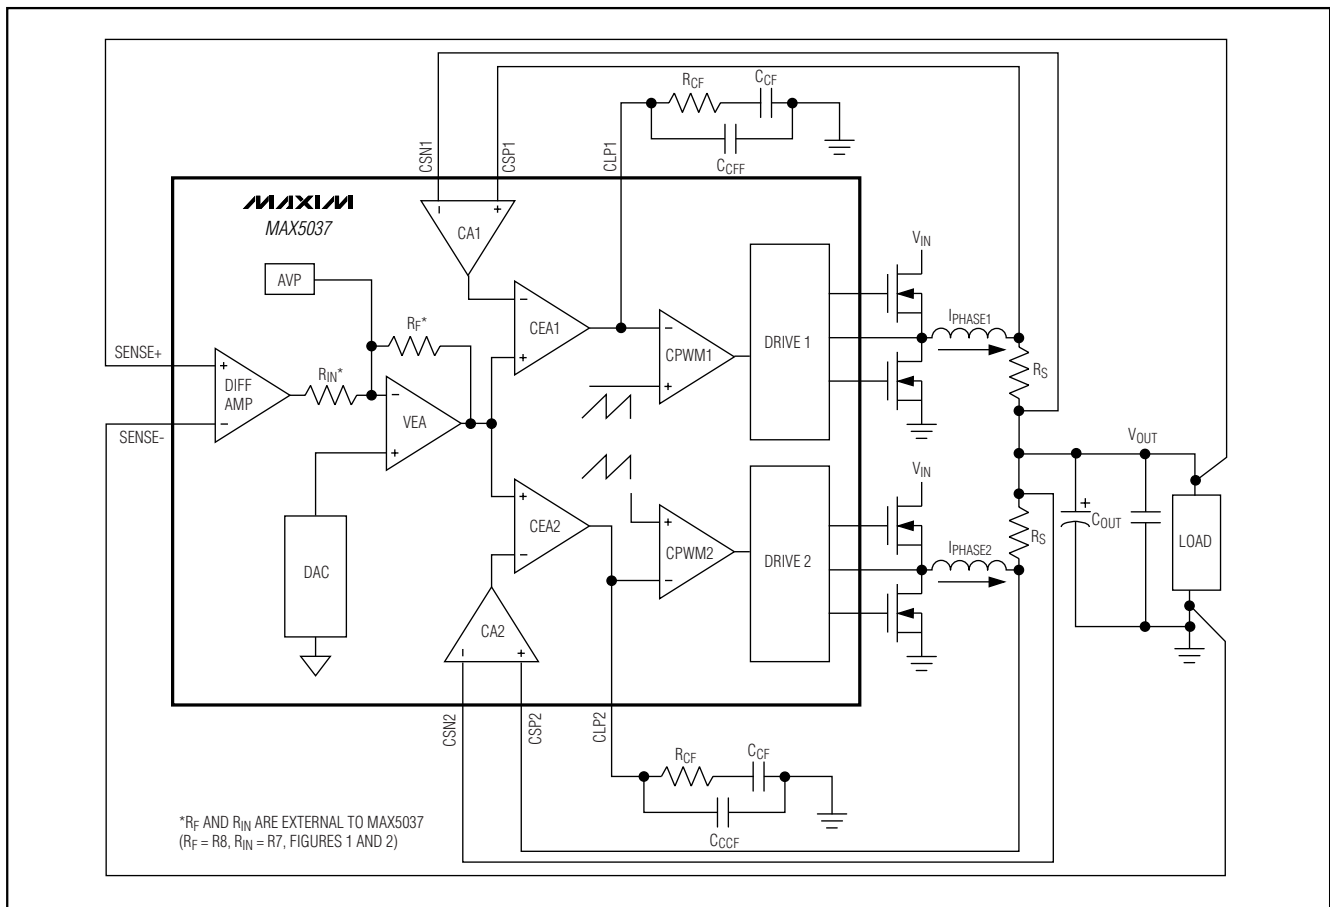

Figure 3. MAX5037 Control Loop
The MAX5037 uses an average current-mode control scheme to regulate the output voltage (Figure 3). The main control loop consists of an inner current loop and an outer voltage loop. The inner loop controls the output currents (I_{PHASE1} and I_{PHASE2}), while the outer loop controls the output voltage. The inner current loop absorbs the inductor pole reducing the order of the outer voltage loop to that of a single-pole system.
The outer voltage control loop consists of the differential amplifier (DIFF AMP), adaptive voltage-positioning (AVP) block, digital-to-analog converter (DAC), and voltage-error amplifier (VEA). The unity-gain differential amplifier provides true differential remote sensing of the output voltage. The differential amplifier output and the AVP connect to the inverting input (EAN) of the VEA. The noninverting input of VEA is internally connected to the DAC output. The VEA controls the two inner current loops (Figure 3). Use a resistive feedback network to set the gain of the VEA as required by the adaptive voltage-positioning circuit.
Each phase of the MAX5037 has a dedicated transconductance current-error amplifier (CEA₋) with a typical g_m of 550 μ S and 320 μ A output sink and source current capability. The CEA₋ outputs, CLP1 and CLP2, serve as the inverting input to the PWM comparator. CLP1 and CLP2 are externally accessible to provide frequency compensation for the inner current loops (Figure 3). Compensate CEA₋ such that the inductor current down
The unity-gain differential amplifier (DIFF AMP) facilitates the output voltage remote sensing at the load (Figure 3). It provides true differential output voltage sensing while rejecting the common-mode voltage errors due to high-current ground paths. Sensing the output voltage directly at the load provides accurate load voltage sensing in high-current environments. The VEA provides the difference between the differential amplifier output (DIFF) and the desired VID programmed output voltage. The differential amplifier has a unity-gain bandwidth of 3MHz. The difference between SENSE+ and SENSE- regulates to the programmed VID output voltage.
The VEA output clamps to 0.9V relative to V_{CM} (0.6V), thus limiting the average maximum current from individual phases. The maximum average current-limit threshold for each phase is equal to the maximum clamp voltage of the VEA divided by the gain (18) of the current-sense amplifier. This results in accurate settings for the average maximum current for each phase. Set the VEA gain using R_F and R_{IN} for the amount of output voltage positioning required within the rated current range as discussed in the *Adaptive Voltage Positioning* section (Figure 3).